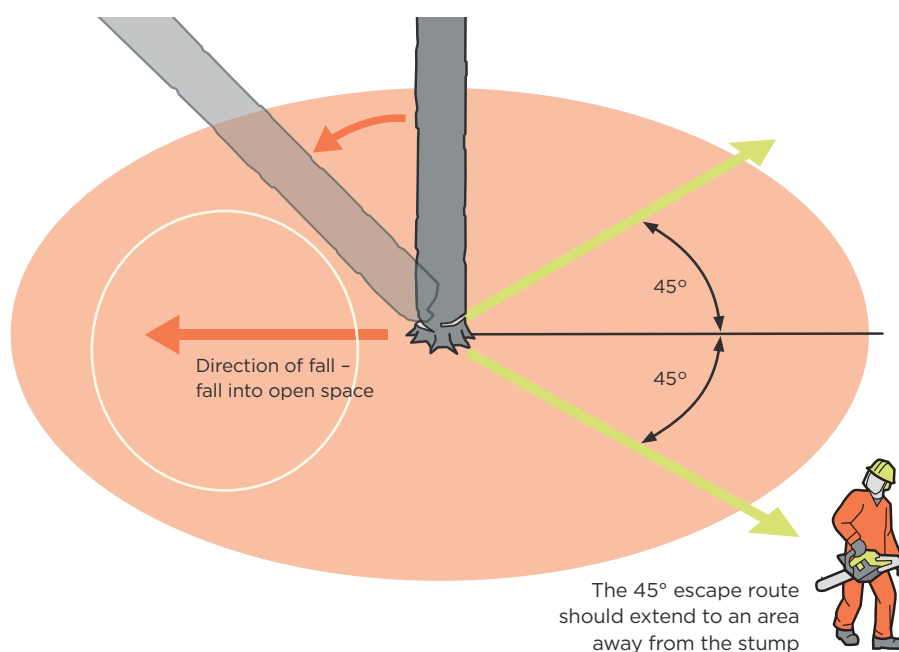

FIGURE 22:
- Always think about the escape route before starting any felling cuts. Where possible, make sure the escape route is at a 45-degree angle opposite the felling direction (Figure 22).
- are positioned up the escape route in full view of the faller (Figure 22)
- there is an escape route cleared at a 45-degree angle opposite the felling direction where possible (Figure 22)